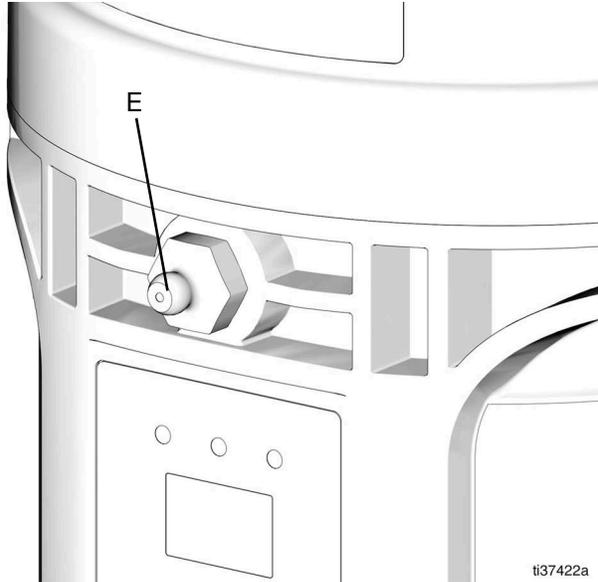

FIG. 17
1. Connect the fill hose to the Zerk Inlet Fill Fitting (E) (FIG. 17).